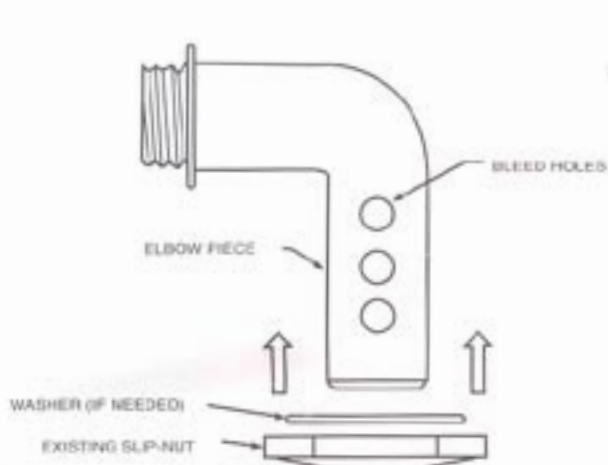

FIGURE 2
2. Remove the slip nut holding the "eyeball" in place from the inlet nearest the shallow end. Select one of the washers (7 or 8) that best fits into the threaded part of the slip nut. Insert the elbow piece (6) through the opening in the washer and then through the slip nut (Fig.2). Some smaller inlets will not require a washer. This is your inlet adapter.